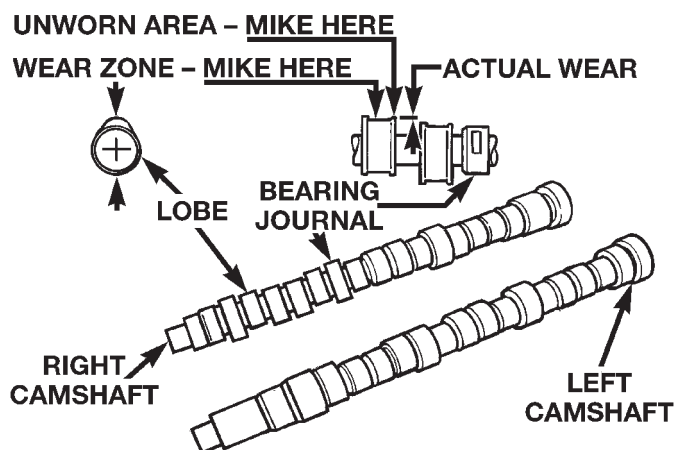

Fig. 102 Inspect Camshafts
(1) Inspect camshaft bearing journals for damage and binding (Fig. 102). If journals are binding, check the cylinder head for damage. Also check cylinder head oil holes for clogging.
(2) Check the cam surface for abnormal wear and damage and replace if defective. Measure the actual wear (Fig. 102) and replace if out of limit, standard value is 0.0254 mm (.001 in.), wear **limit** is 0.254 mm (0.010 in.).